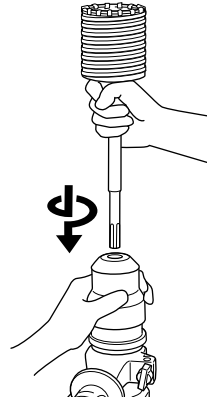

Fig. 25
- (2) Mount the core bit shank to the Rotary Hammer. (Fig. 25)